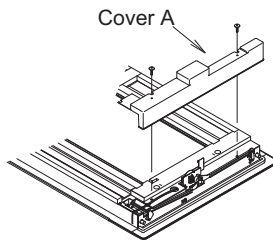

Fig. 8-19
- (1) Remove the 2 screws and remove cover A from the back of the panel. (Fig. 8-19)